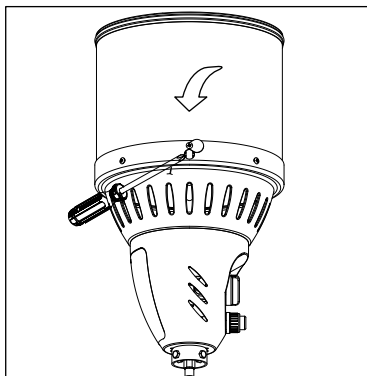

Figure 1
3. Open viewing hole by sliding cover to either side (Figure 1).